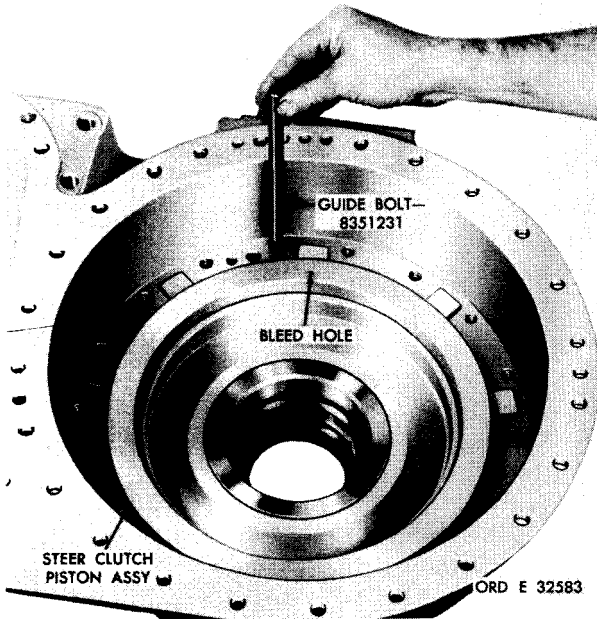

Figure 164. Installing guide bolt used to align geared steer clutch and brake components
i. Install steer clutch piston assembly, aligning the bleed hole as shown. Install guide bolt 8351231 (fig. 164).